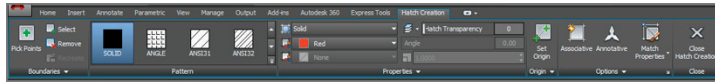

FIGURE 8.3 Using ribbon controls when creating a hatch
3. A temporary tab called Hatch Creation appears on the ribbon. This tab will remain active while you configure the hatch object that you are creating. Click Solid in the Pattern panel, and turn off Associative mode if it is on by clicking its button in the Options panel (see Figure 8.3). (You'll learn about associative hatches in the next section.)